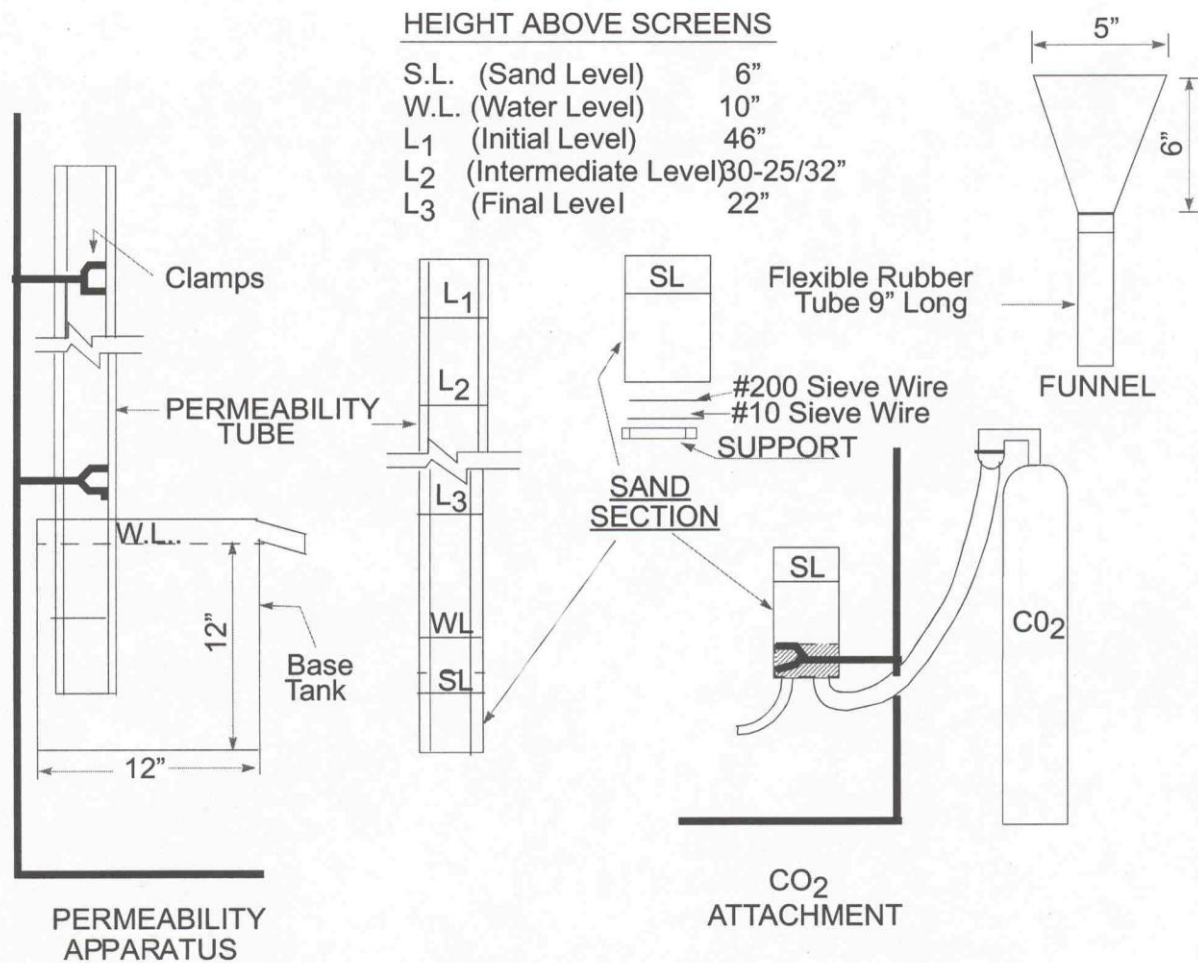

Figure 30-1
1. Permeability Apparatus: Use the equipment shown in Figure 30-1.
2. As the meniscus passes L1 of Figure 30-1, start one watch.